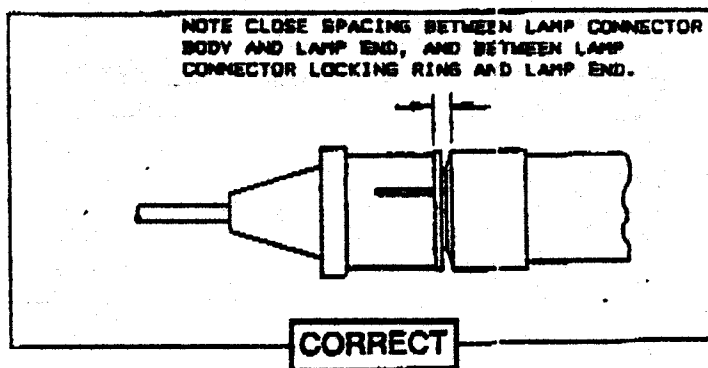

Figure 6. Correctly Locked Lamp Connector
- Step 6. Inspect each lamp connector to ensure the connector is correctly locked onto the lamp end as shown on Figure 6.